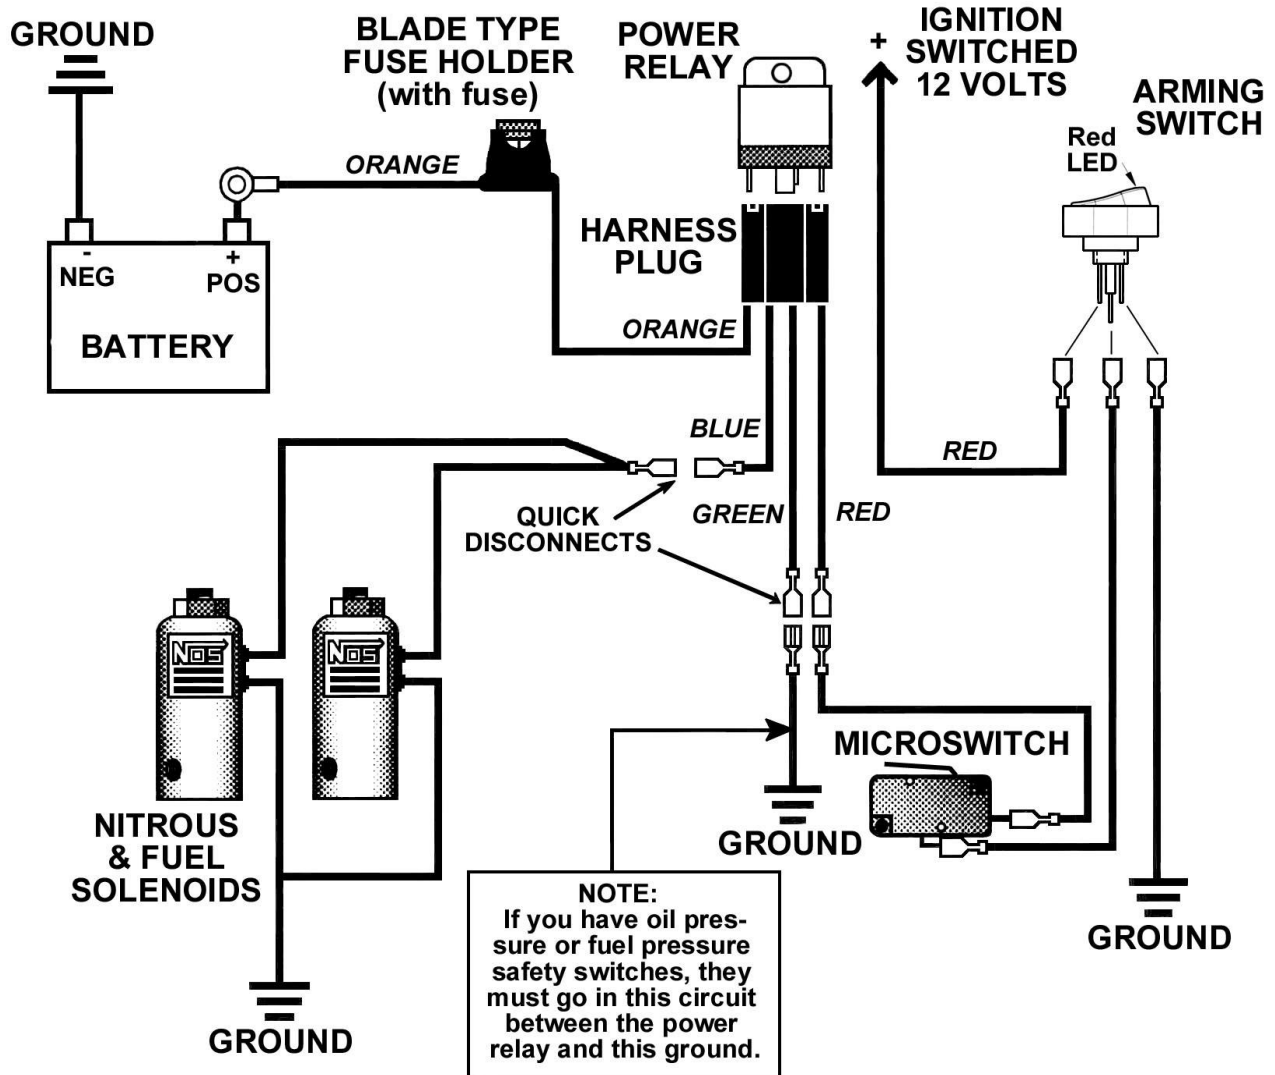

Figure 5 Wiring Schematic for Kit Numbers 02119NOS
NOTE: Numbers in parentheses () refer to the parts list /assembly drawing number for the component. Figure 5 shows the installation assembly for kit number 02119NOS.
7. Install the new injector plate stud (5) into the lower intake manifold. Refer to Figure 5 for stud location.
8. Install the new intake manifold gasket (9) and injector plate (10). The plate can only oriented one way when properly assembled and installed (note "THIS SIDE UP" etched in plate surface).
9. Install the new manifold gasket and upper intake manifold. Use 5/16" nuts (6), washers (7), and bolts (8 or 28 and 14) to secure the upper intake. The (8) bolt should be used with the new style intake. The (28) bolt (tapered head) should be used with the old style intake.
2. Refer to the wiring schematic (Figure 5) for electrical system installation.